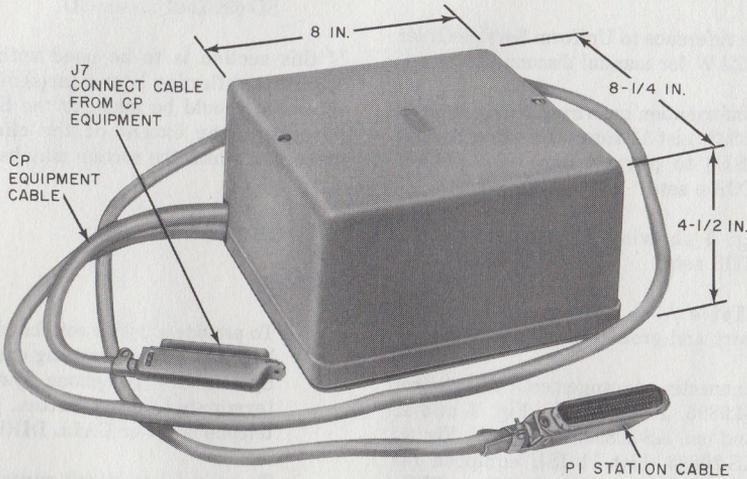
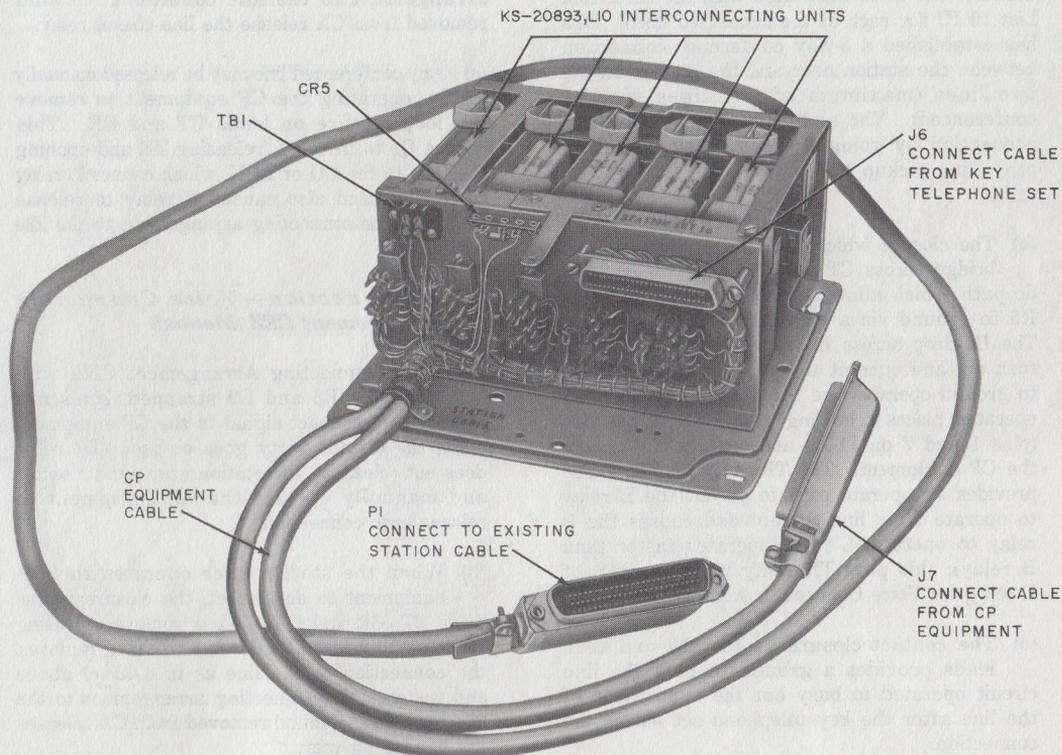

Fig. 1—KS-20893, List 11 Interconnecting Service Unit
Fig. 4—KS-20893, List 11 Interconnecting Service Unit, Equipped (Cover Removed)
1.03 Voice Connecting Arrangement CEZ requires one KS-20893, List 11 ISU, Fig. 1 and 2, per five lines and one KS-20893, List 10 IU, Fig. 3, per line. A KS-20893, List 11 ISU equipped for five lines is shown in Fig. 4. Not all COs or PBXs provide an open or battery reversal on disconnect,
KS-20893, List 11 Interconnecting Service Unit (Fig. 1, 2, and 4)
5.02 When there is an indication of trouble in the connecting arrangements, the circuit must be opened at the interface (J7 on the CP equipment cable on the KS-20893, List 11—see Fig. 4) to verify in which direction the trouble exists.
- (b) Check for presence of battery and ground and proper polarity on TB1 (-24 volts) on KS-20893, List 11 ISU (see Fig. 4, 6, and 7).
6.01 Connect plug P1 on the cable from the KS-20893, List 11 ISU to the connector on the existing station cable from the key telephone equipment (see Fig. 4 and 5). Connect the plug on the mounting cord from the key telephone set to connector J6 on the KS-20893, List 11 ISU. Connect the plug on the cable from the CP equipment to connector J7 on the CP equipment cable on the KS-20893, List 11 ISU. The plug on the cable from the CP equipment mates with connector J7 on the CP equipment cable on the KS-20893, List 11 ISU.
The (S-W) (G-R) leads in the cable on the KS-20893, List 11 ISU are provided for battery and ground connection to the ISU from the key telephone equipment (see Fig. 6 and 7). If these leads are not available in the existing station cable from the key telephone equipment, separate wiring must be provided to connect battery and ground to the screw terminals on TB1 (Fig. 4) from the key telephone equipment or a separate -24 volt power supply. When battery and ground connections are made directly to screw terminals on TB1, disconnect the (G-R) wire from the screw terminal on TB1 and the (S-W) wire from terminal 6 (wire-wrap terminal) on connector J1; insulate and store.